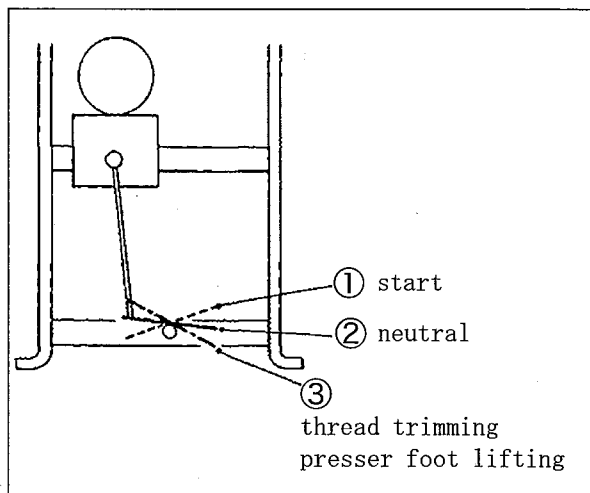

Fig. 19
- (1) Heel back the pedal to raise the presser foot.
(Fig. 19 ③)
- (2) Place a fabric under the presser foot and toe down the pedal. (Fig. 19 ①)
- (3) Release the pedal. (Fig. 19 ②)
- (4) Heel back the pedal. (Fig. 19 ③)
- (5) Release the pedal. (Fig. 19 ②)